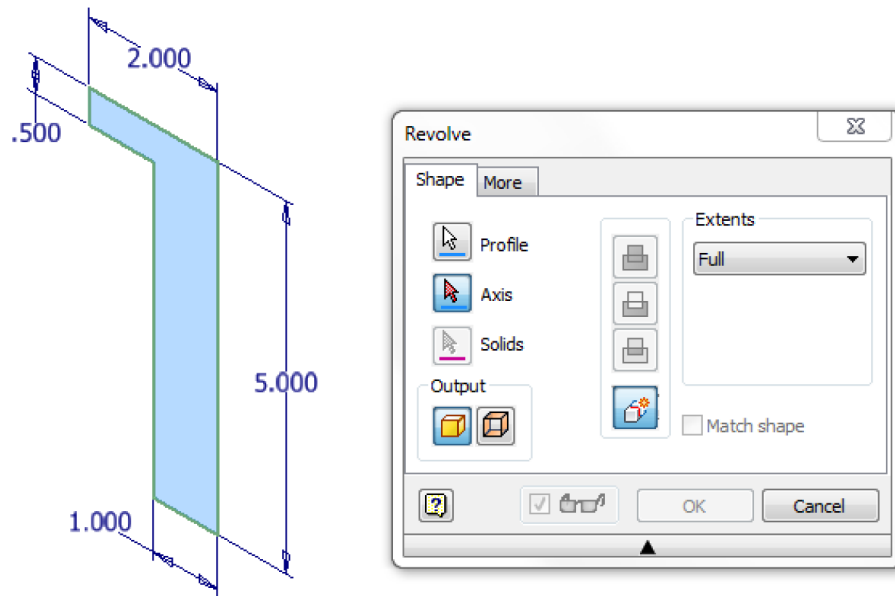

Figure Step 6
**Step 6** In Model mode, enter the REVOLVE command. It will highlight the sketch automatically as the area to revolve. (Figure Step 6)